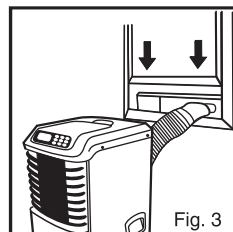
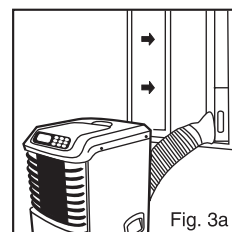

Fig. 3
Fig. 3a
- 2) Install the **Flexible Exhaust Hose** and the **Adjustable Window Slider Kit** as depicted in *Fig. 3* & *Fig.3a*.